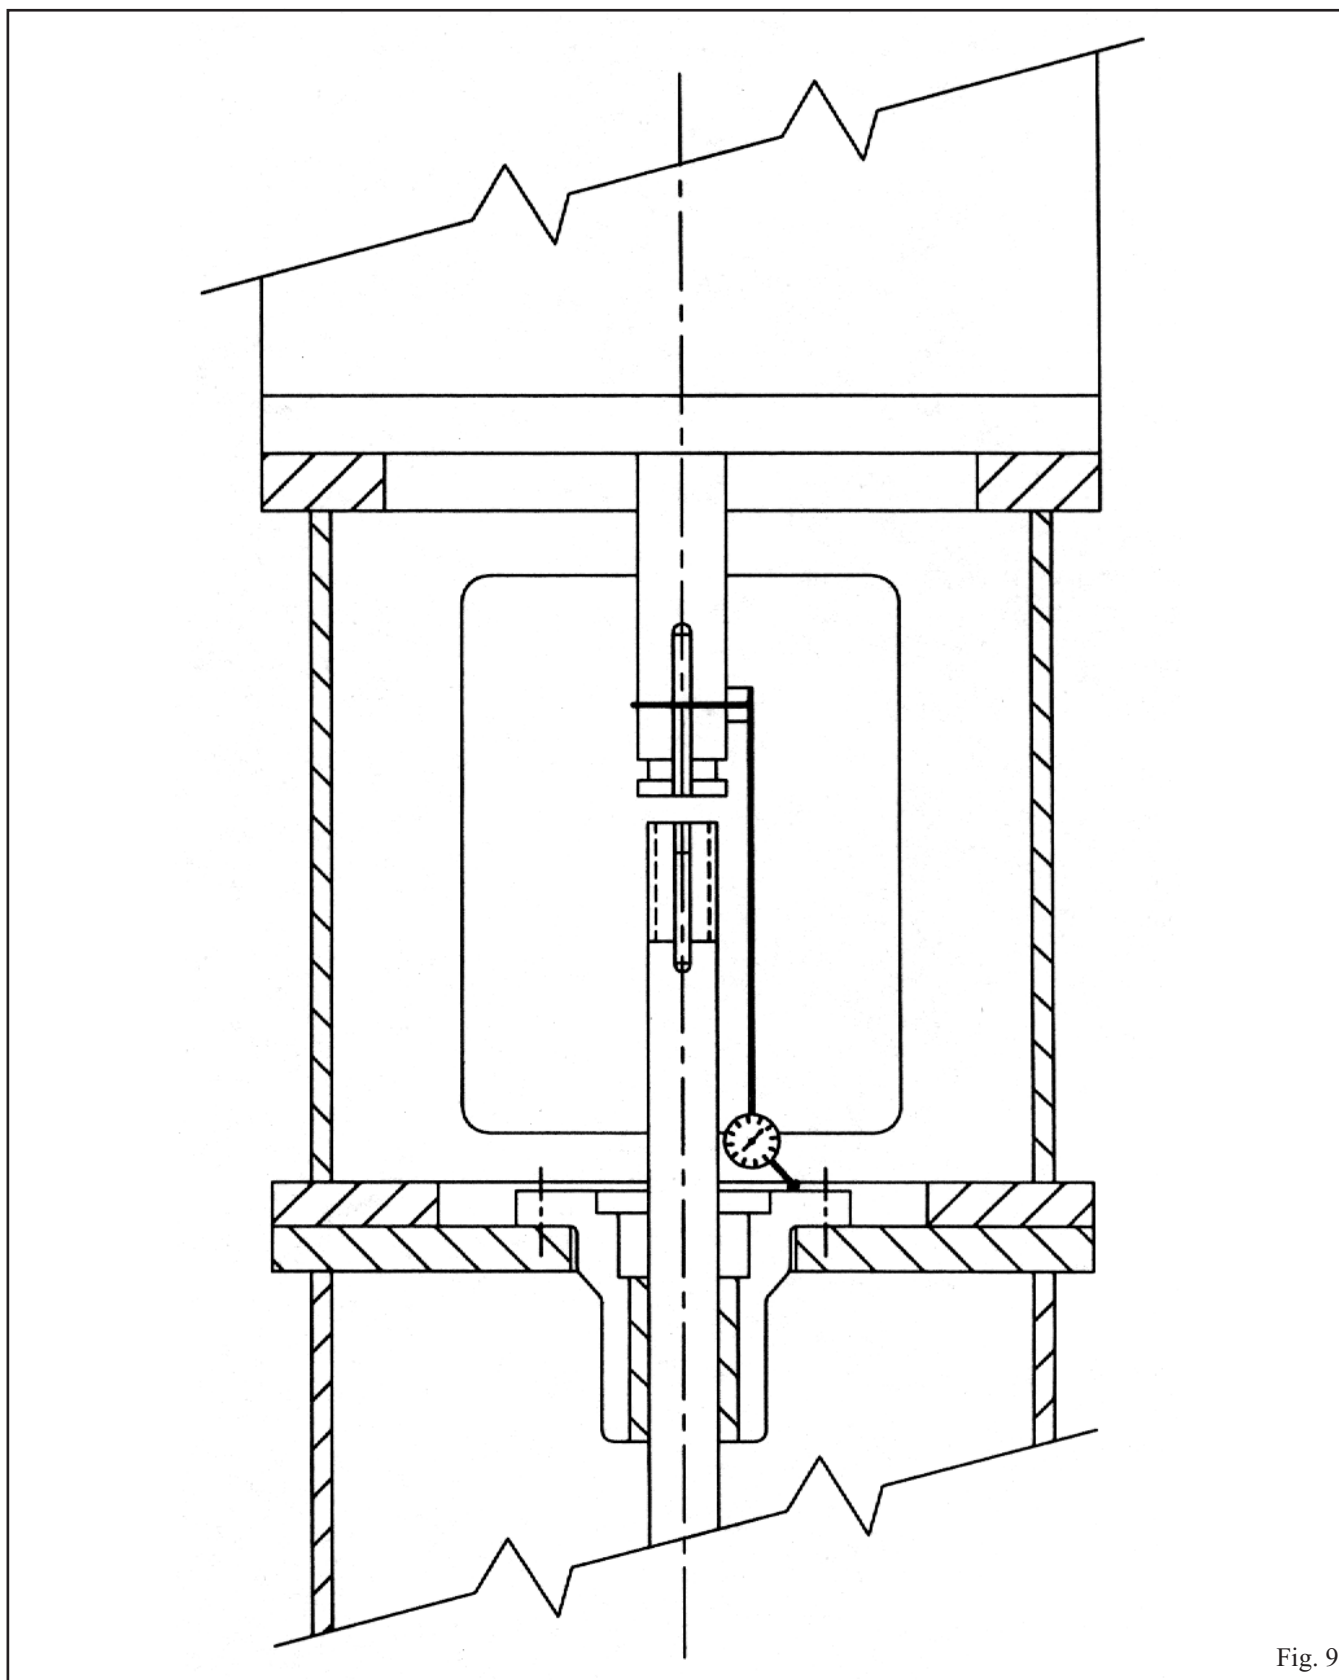

Fig. 9
- B. **Flatness of Seal Housing** (See Fig. 9). This measurement may require that the mechanical seal be removed in the event that the dial indicator stylus cannot rotate 360° on the top surface of the seal gland. With the lower coupling components removed, attach the base of the dial indicator to driver shaft. Place the stylus at the top surface of the seal gland, or at the top surface of the seal housing. Rotate the driver shaft slowly 360°. Check that the face of the seal housing is square with the shaft, to within 0.002 in. (0.05mm) TIR.